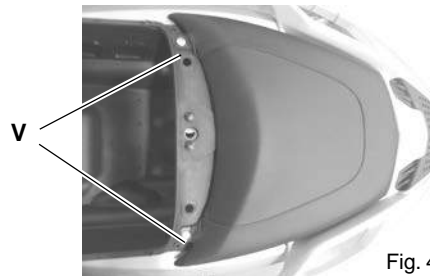

Fig. 45
- Loosen the two screws (V - Fig. 45) securing the passenger's seat in place using an Allen wrench.